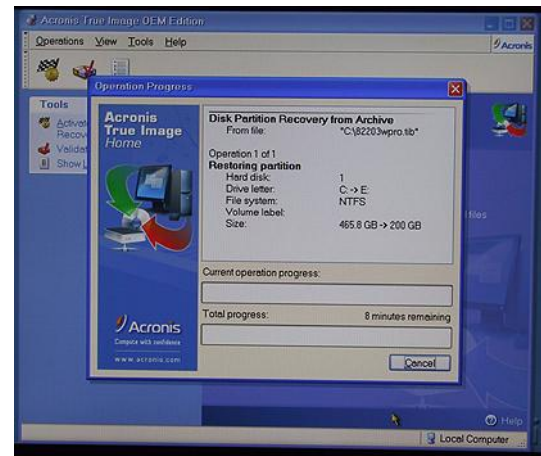

Figure 3-68
- 32) Click the **Proceed** button to initiate the restoration, at which time you will be presented with the **Operation Progress** dialog (Figure 3-68), which will reflect the status of the restoration. (In the case of a multi-DVD image, the system will inform you as and when to insert subsequent DVDs).